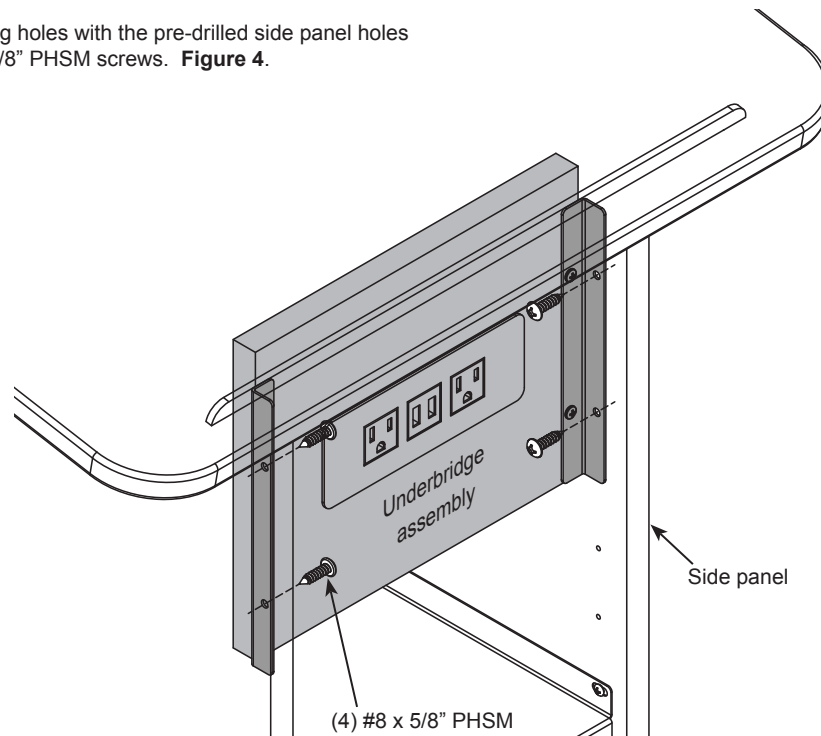

Figure 4
1. Align the bracket mounting holes with the pre-drilled side panel holes and attach with (4) #8 x 5/8" PHSM screws. **Figure 4.**